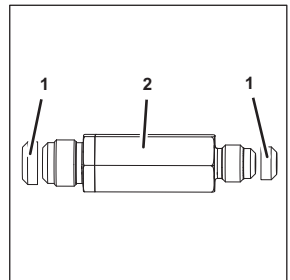

Figure 101
3. Check the seals (Figure 101/1) for damage. Replace any damaged seals (Figure 101/1).
4. Position the new non-return valve (Figure 101/2) within the unit.